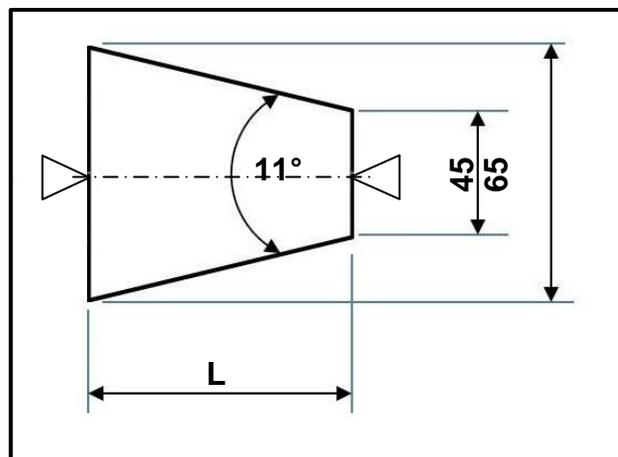

FIGURE 5.2
5.2 FIGURE 5.2 below shows a diagram of a taper with an included angle of 11° , which should be machined between two centres.